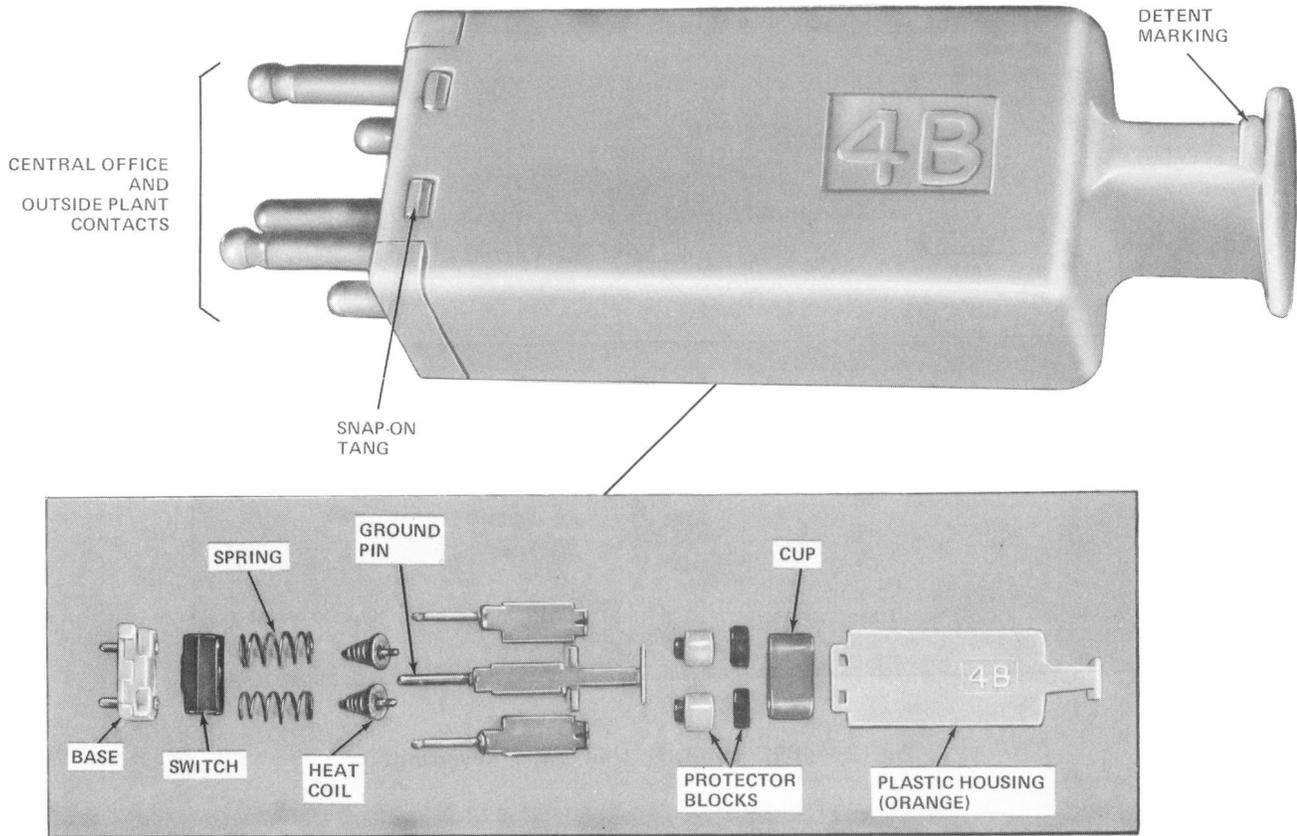

Fig. 3—4B11C Protector Unit (Mini-Bridge Lifter)
3.05 The 4B11C protector unit (Fig. 3) is a 4B-type protector unit (orange) that contains bridge-lifting circuitry in addition to the standard protector blocks and heat coils (Fig. 3). This device is a semiconductor switch type bridge lifter. In the idle state, the semiconductor switches open, isolating the subscriber loop from the central office by adding impedance. In the active state, the semiconductor switches are closed, thereby removing the high impedance from subscriber loop. The mini-bridge lifter may be used to bridge a maximum of four outside plant subscriber lines to the same central office subscriber line.